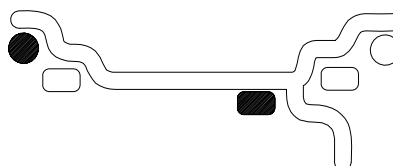

Figure 21
See (Figure 21). Pressing the weight selection button (9) will toggle the LED's to the weight default selections as shown. Balancing using a combination of hammer-on and adhesive weights as shown in Figure 21.